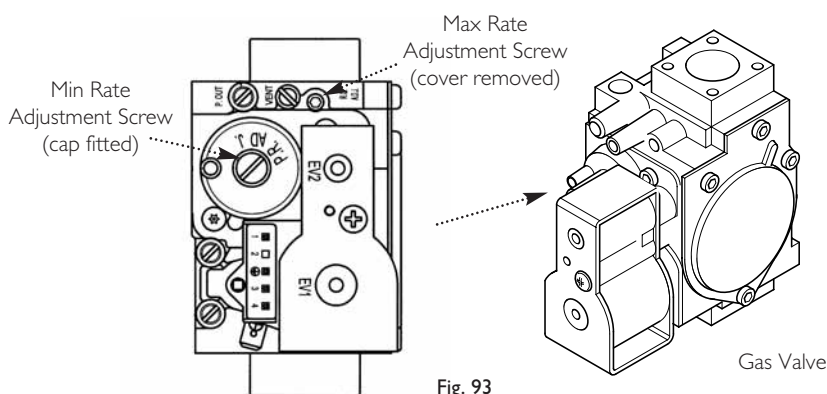

Fig. 93
9. It is possible to alter the CO₂ by adjustment of the gas valve. Remove the plastic cover from the 'Max Rate' adjustment screw. At maximum rate the 'Max. Rate' adjustment screw should be turned, using a suitable hexagon key, until the correct reading is obtained (Fig. 93). Turning clockwise will reduce the CO₂. Anti-clockwise will increase the CO₂.
11. With the boiler on minimum, the 'Min. Rate' adjustment screw must be altered, using a suitable hexagon key, after removing the cap (Fig. 93). Turning anti-clockwise will reduce the CO₂. Clockwise will increase the CO₂. If the CO₂ is reset at either boiler rate it must be rechecked at the other rate and also adjusted if required.